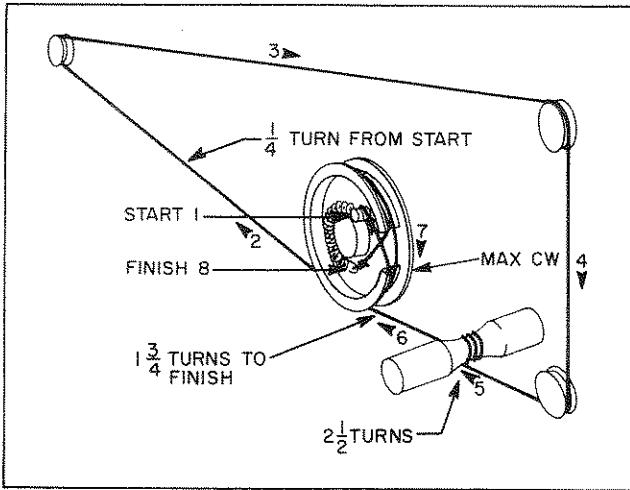

Figure 2. Dial Cord Restraining Diagram.
1. Position the tuning capacitor drive drum as shown in figure 2.
2. Tie one end of the dial cord to the plastic stud located at number 1 (figure 2). One end of the dial spring should also be hooked to this stud.